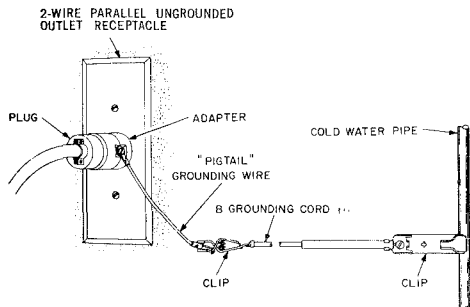

Fig. 8 — Grounding Pigtail
- If grounded object selected is far away from power outlet use the B Grounding Cord to connect the object to the ground pigtail wire on the adapter (See Fig. 8).